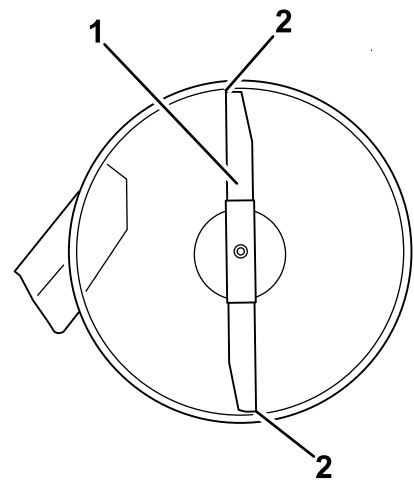
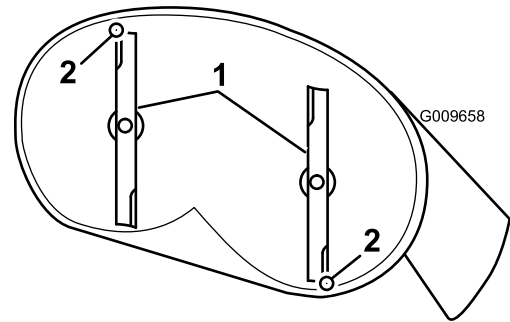

Figure 60
Figure 61
4. Carefully rotate the blades so they are facing front to rear (Figure 60 and Figure 61).
5. Measure from the tip of the front blade to the flat surface and the tip of the rear blade to the flat surface (Figure 60).
9. After adjustment, check the front-to-rear slope again, continue adjusting the nut until the front blade tip is 1.6 to 7.9 mm (1/16 to 5/16 inch) lower than the rear blade tip (Figure 60).